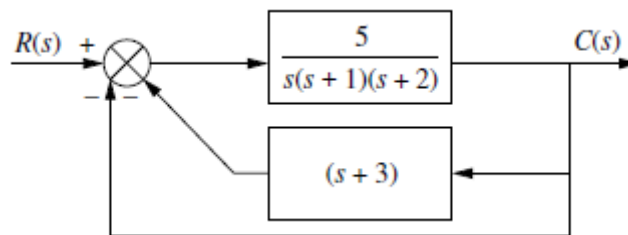
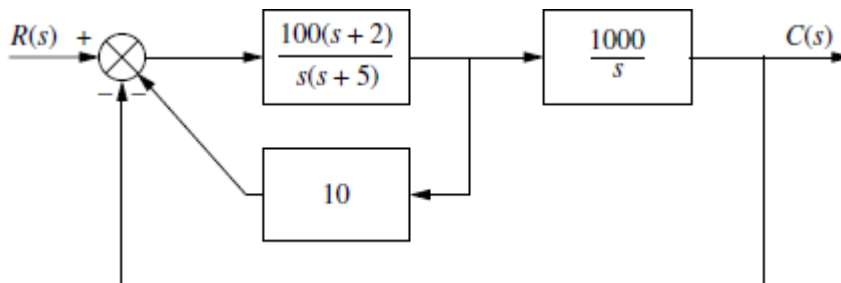

Fig. 10
Fig. 11
11. For the system shown in Fig. 10, and Fig. 11